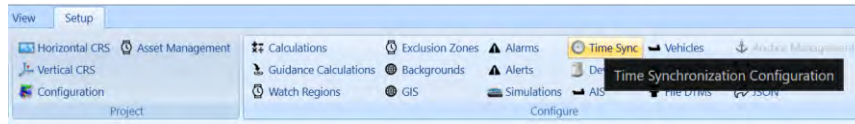

FIGURE 13-1 SETUP RIBBON - TIME SYNC BUTTON
2. From the Configure section of the Setup tab in the ribbon, click the **Time Sync** button (see Figure 13-1)